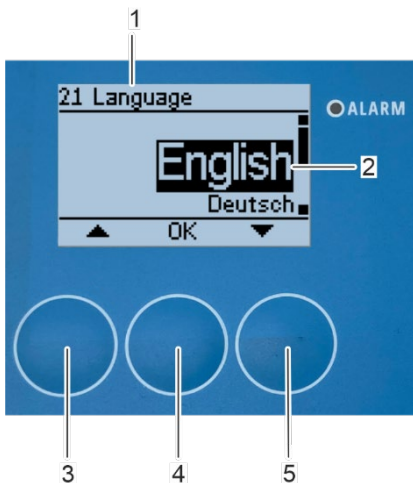

Fig. 125: Set language
⇒ The "21 Language" submenu appears on the display (Fig. 125/1)
3. Select the preferred language (Fig. 125/2) with the arrow keys [up] (Fig. 125/3) and [down] (Fig. 125/5).
4. Confirm the selection with [OK] (Fig. 125/4).